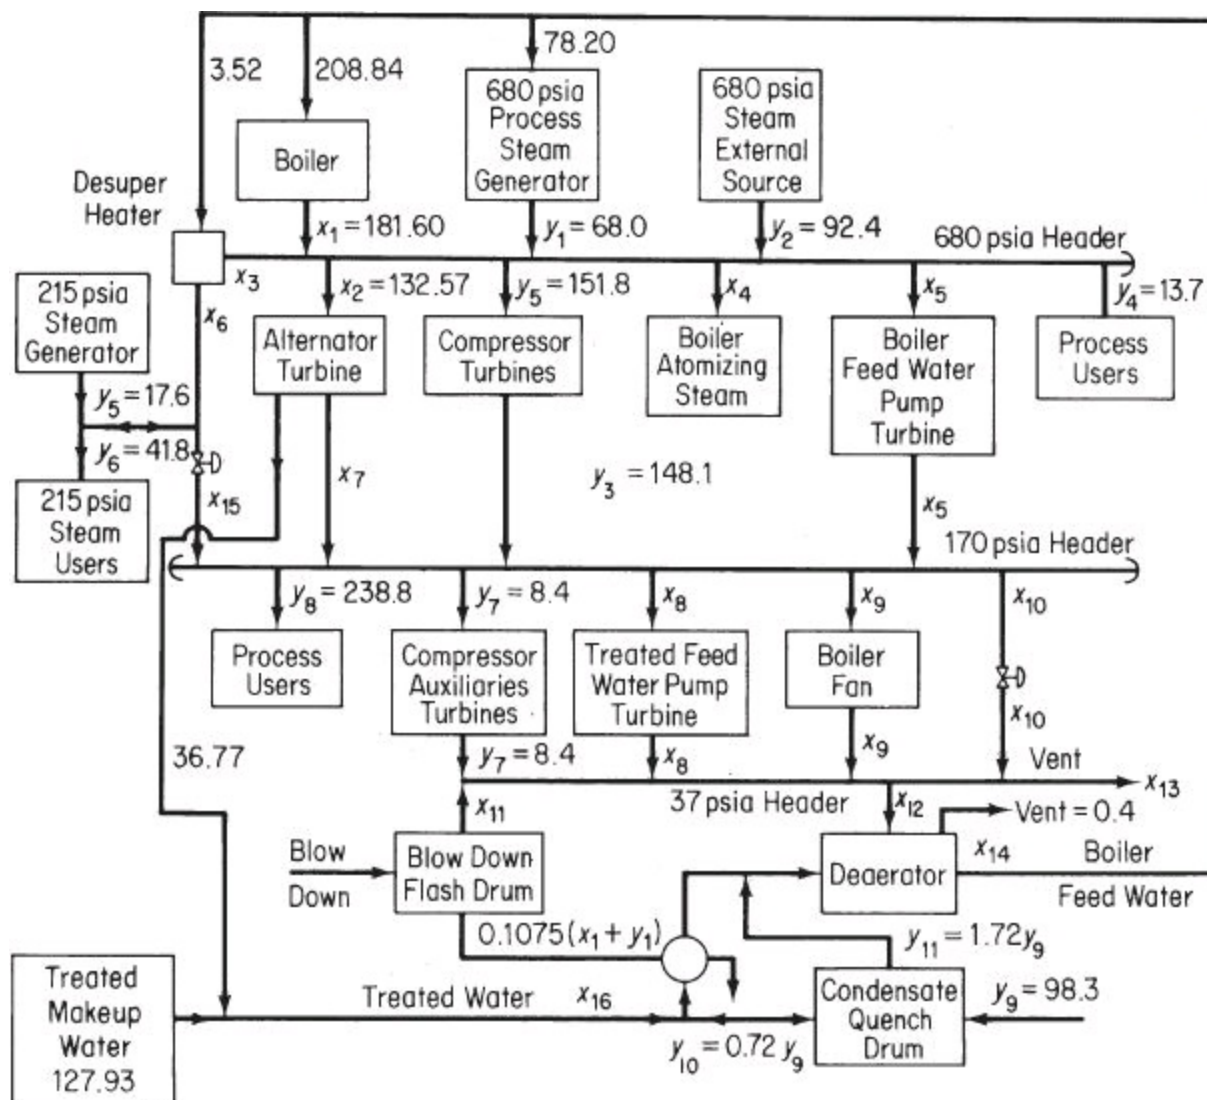

Figure P16.16
16.16. Determine the values of the unknown quantities in Figure P16.16 by solving the following set of linear material and energy balances that represent the steam balance: